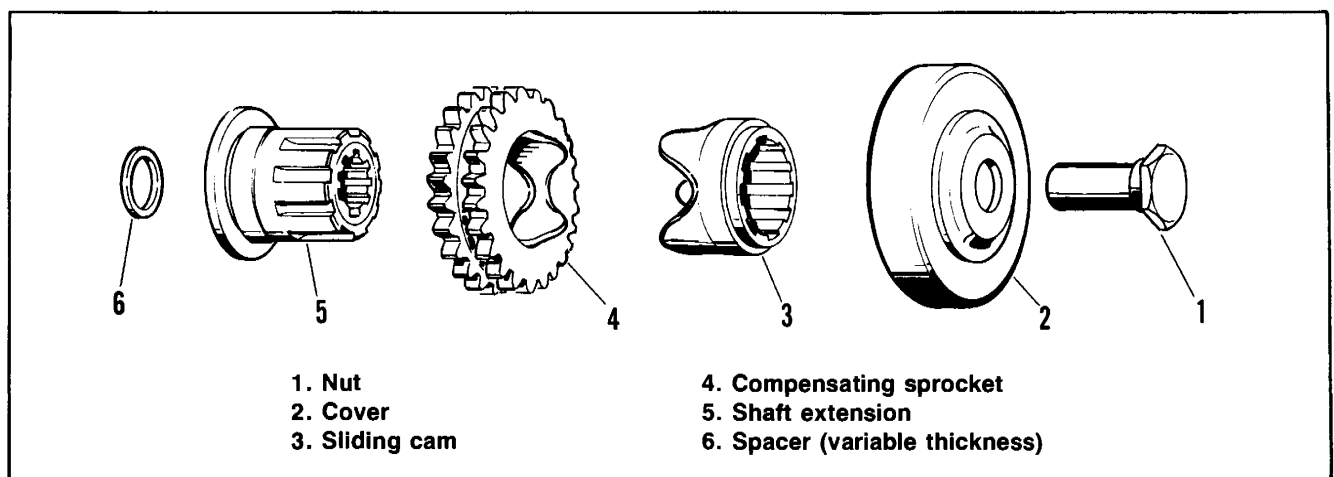

Figure 6-3. Compensating Sprocket
3. See Figure 6-3. Disassemble components of compensating sprocket.
2. See Figure 6-3. On "dry" clutch models apply grease to cam lobes (3 and 4).
Assemble both sprockets, chain and chain adjuster as an assembly following procedure under CLUTCH, ASSEMBLY. Make sure correct spacer (6, Figure 6-3) is used.
Assemble both sprockets, chain and chain adjuster as an assembly following procedure under CLUTCH ASSEMBLY. Make sure correct spacer (6, Figure 6-3) is used.